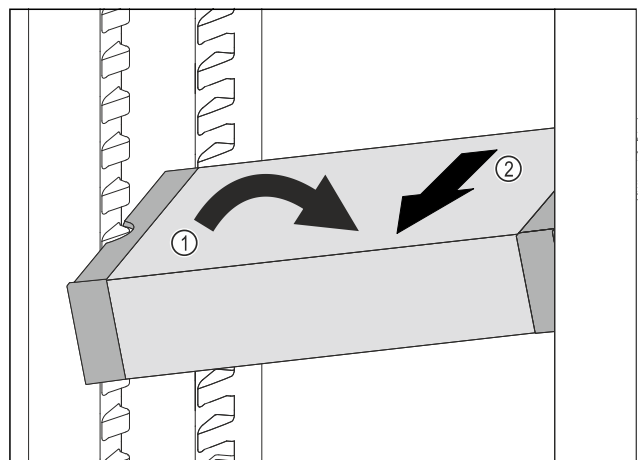

Fig. 108
- Set VarioSafe in refrigerator compartment at an angle. Fig. 108 (1)
- Take VarioSafe out to the front. Fig. 108 (2)